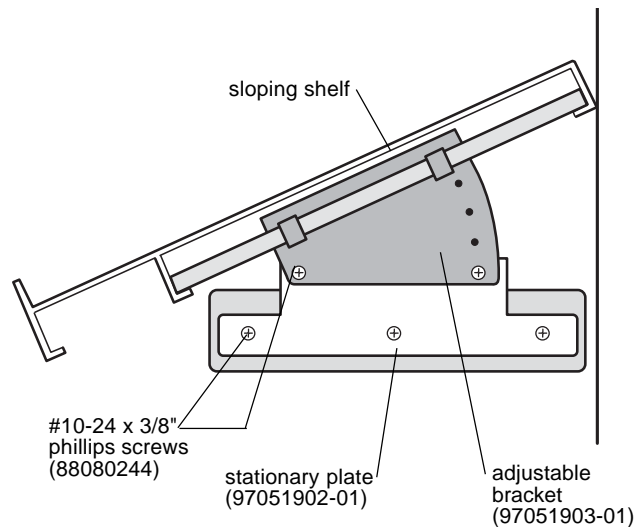

Figure 2
2. Position stationary plates on Task Light ends aligning all holes, making sure the lances on the plates are facing outboard and weldnuts are facing inboard. Fasten with six (6) #10-24 x 3/8" phillips screws provided using a #1 phillips driver.
3. Determine angle of shelf and corresponding holes in the adjustable bracket. Fasten to stationary bracket with two (2) #10-24 x 3/8" phillips screws provided per side using a #1 phillips driver. (Figure 2)